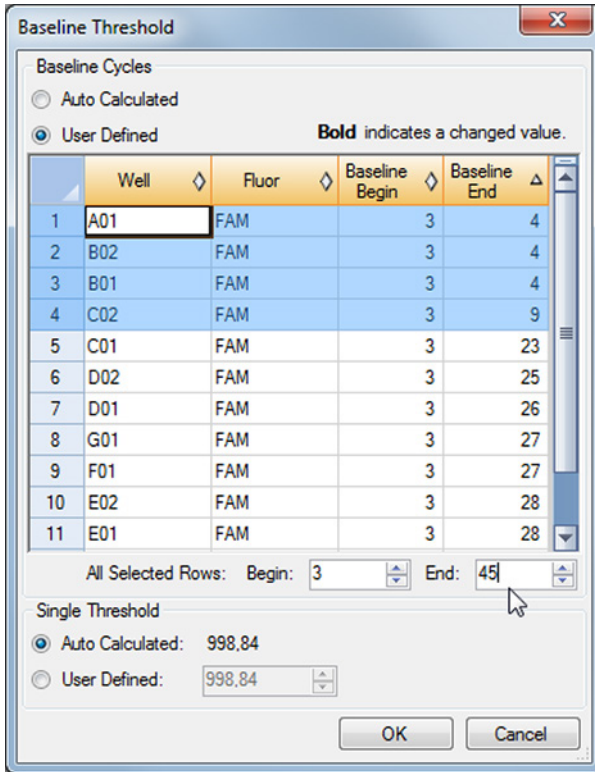

Figure 35: Baseline Threshold dialog
- Select all lines that show a **Baseline End** value of 1 to 9 (see Figure 35).
- Set the value in the **End:** field to 45 for the selected lines (see Figure 35).